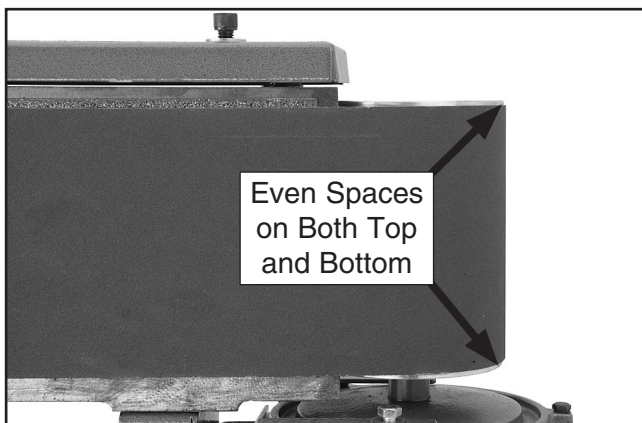

Figure 14. Example of sanding belt centered on main roller (dust hood removed for clarity).
5. Adjust the tracking higher or lower with the belt tracking knob as needed and continue to rotate the belt by hand until the sanding belt is centered on the main roller, as shown in **Figure 14**.
5. Loosen the belt tension lock knob, and using the tracking control knob, carefully adjust the tracking higher or lower until the sanding belt remains centered on the main roller (see **Figure 14**).